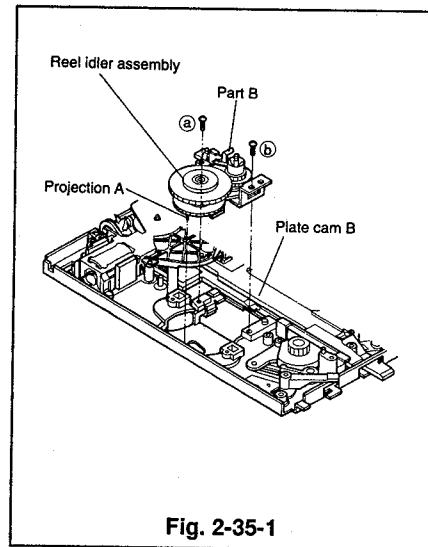
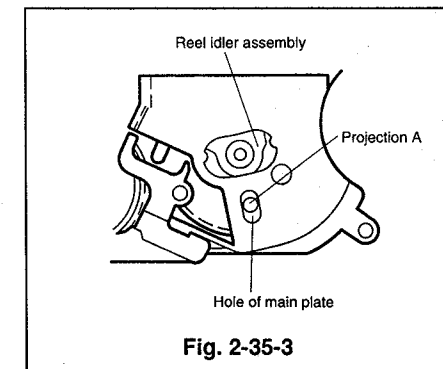

Fig. 2-35-1
Fig. 2-35-3
- ① Insert the part B of the reel idler assembly under the plate cam B as shown in Fig. 2-35-1 and insure projection A enters the hole on the main plate. Position the reel idler assembly so that its screw holes are aligned and secure it with the two screws (a) and (b). (Fig. 2-35-3 shows its appearance, viewing from the top.)
- ② Install the belt pulley and the reel belt. (Refer to Para. 2-28 for the installation method.)